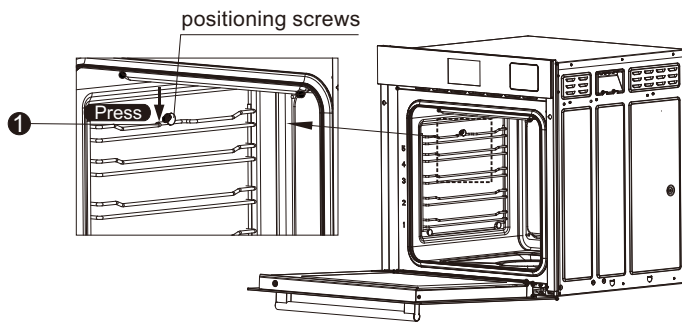

Figure 1
6. Remove and install shelves (left and right shelves in the same way): press the position of shelf ① (Figure 1) until the shelf leaves positioning screw, and remove it upward according to the arrow in (Figure 2), that is, it can be disassembled. Reassemble the shelf, press (Figure 2) the lower end of the shelf aligned with the screws 1, 2 inserted, and then the upper end of the shelf snap into positioning screw can be.